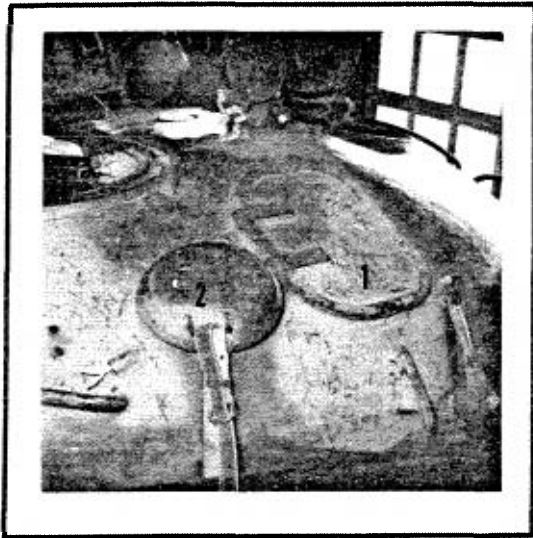
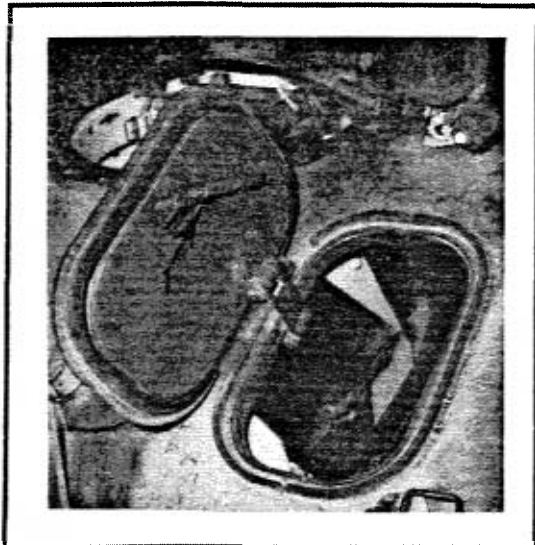
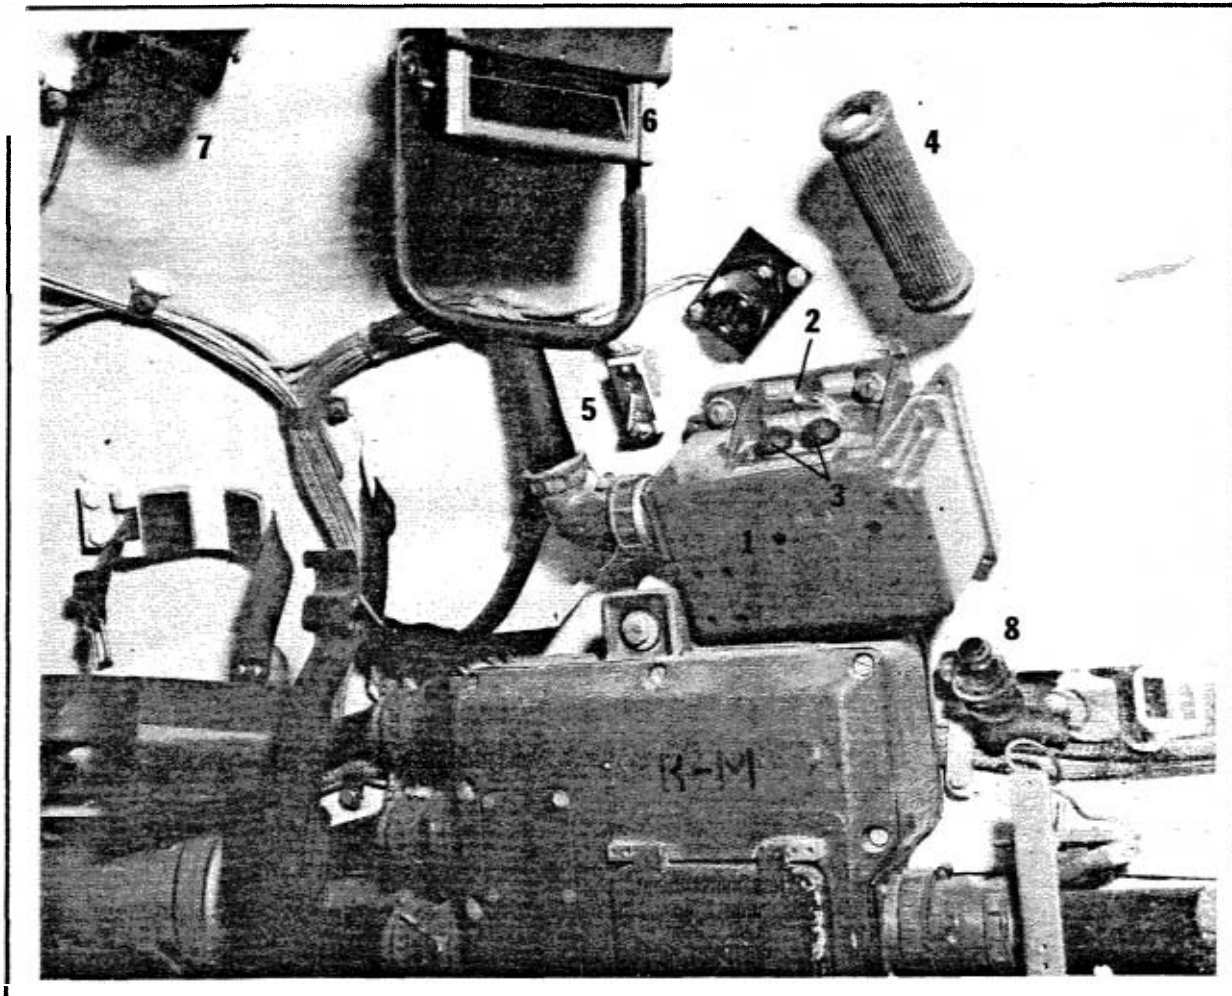

FIG. 3-53. EJECTION PORT
FIG. 3-55. EJECTION PORT OPEN
FIG. 3-57. EJECTOR CONTROL BOX
i. Automatic Ejection System. The T-62 series tank has an integral spent shell ejection mechanism which is activated by the recoil of the main gun and ejects shell casings from the turret. The ejector mechanism consists of three main elements; the tray, the ejector port (Figs. 3-53, 3-54, 3-55, 3-56), and the electrical control box (Fig. 3-57).
(2) The Ejector Port (Figs. 3-53, 3-54). There is an ejector port on the rear side of the turret. It is through this port that spent shells are ejected. The port is opened and closed by a servomotor mounted to its side. The door opens automatically when the ejection system functions and can also be opened electrically without the entire system functioning (Figs. 3-55, 3-56). The port can be opened manually (with difficulty) by disengaging and pushing up the servomotor which is joined to the port.
(3) The Ejection System Control Box (Fig. 3-57). Immediately below the loader's panic grip on the turret wall is mounted the electrical control box for the ejection system. This box has one toggle switch and two push buttons.
m. Driver's Auxiliary IR Light (Fig. 3-24). The switch for the driver's auxiliary infrared light is mounted in the loader's area just above the power connection for the loader's electrical control box (Fig. 3-57). The infrared light itself is located on the fixed platform of the main/searchlight mount.